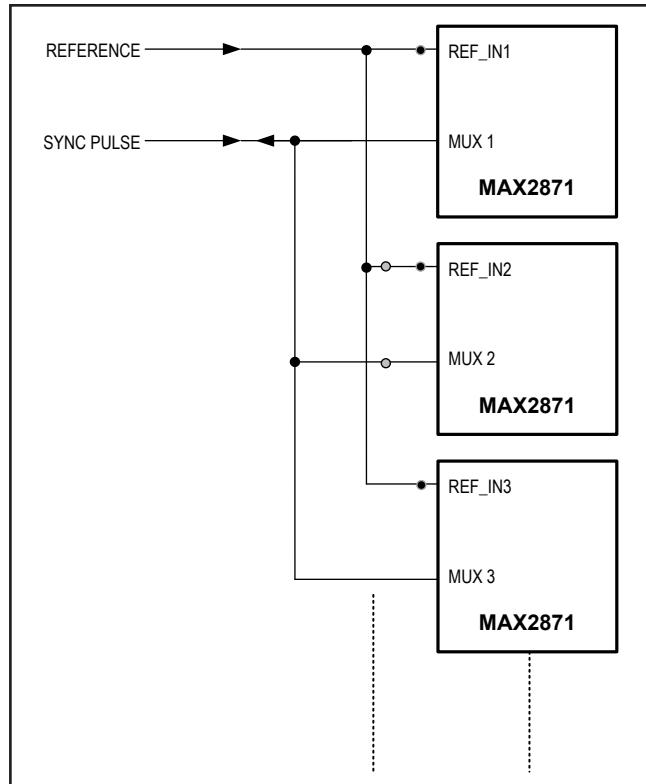

Figure 5. Phase Synchronization Application Setup
1. Connect all MAX2871 to same reference source. Refer, Figure 5